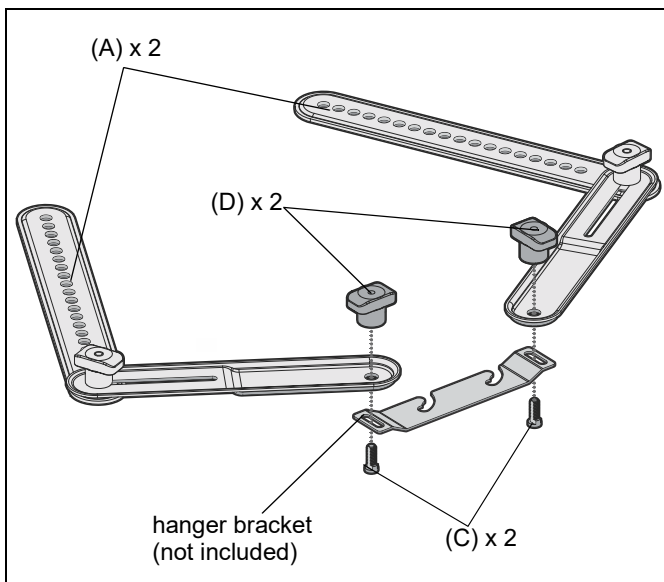

Figure 2
- Attach two soundbar brackets (A) to soundbar's hanger bracket with two knobs (D) and two keyhole screws (C). (See Figure 2)